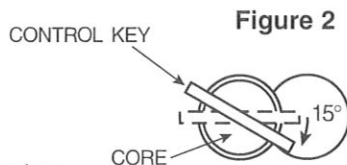

Figure 2
- B. Insert key marked CONTROL and turn clockwise approximately 15 degrees. See Figure 2.